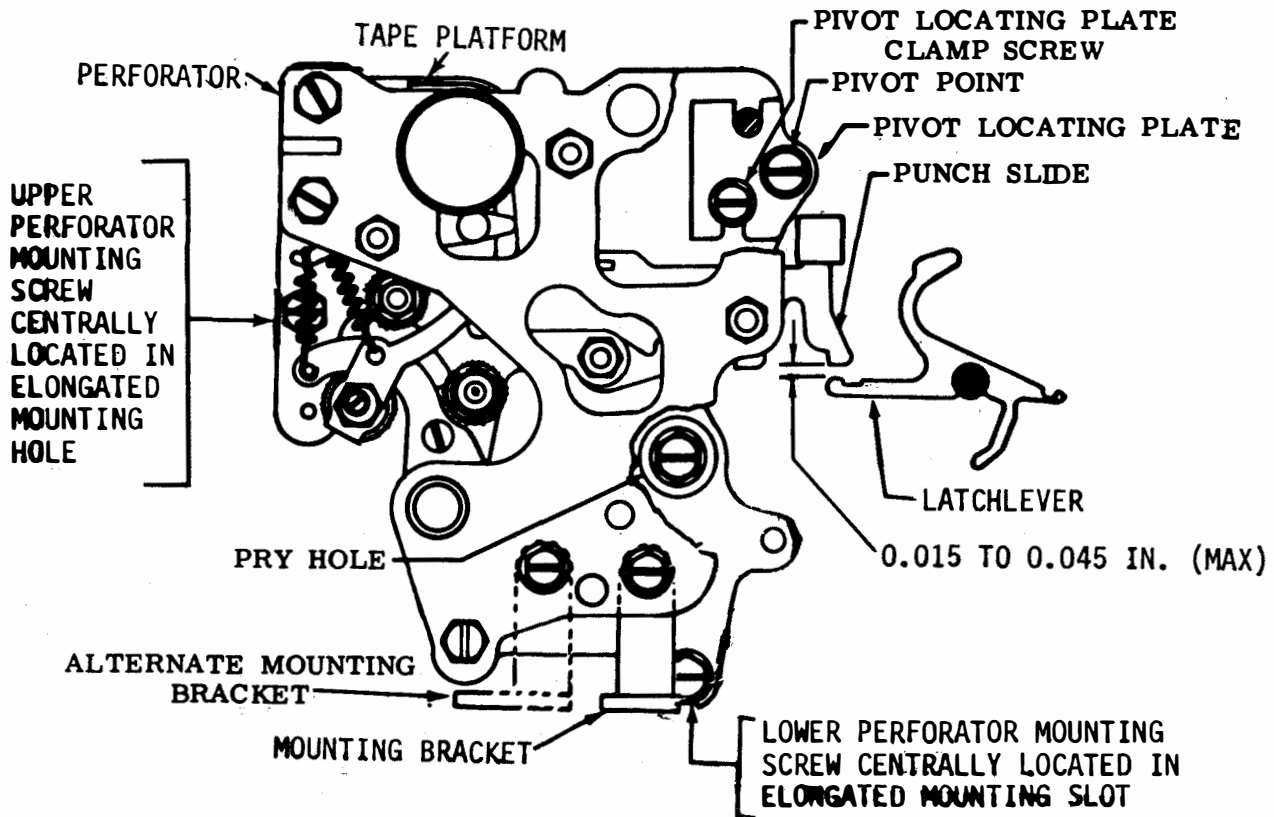

Figure 6-160. Perforator Position (Preliminary and Final) (Non-typing Perforator Only)
- (a) Refer to Figure 6-160.
(a) Refer to Figure 6-160.